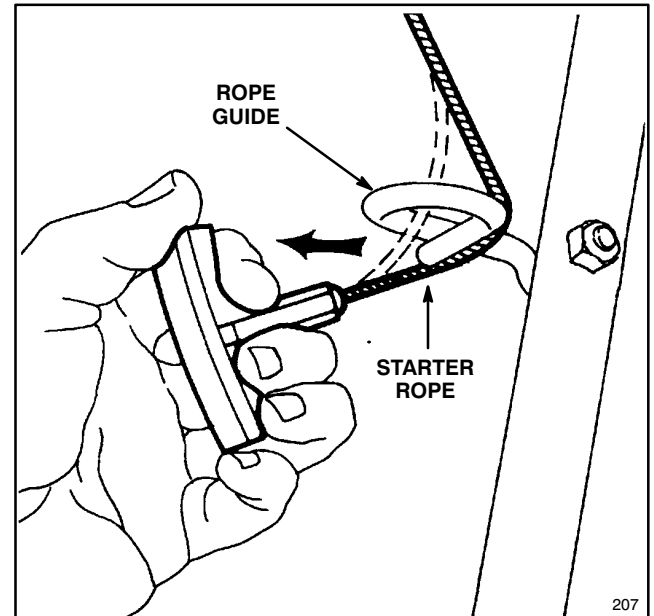
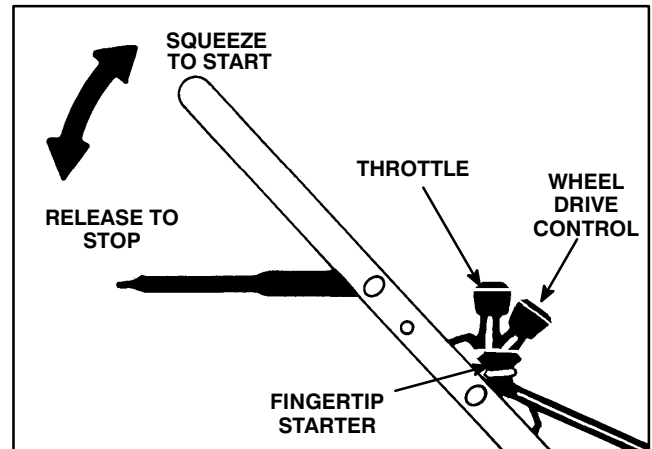

Figure 3
Figure 5
3. STARTER ROPE (Fig. 3)—Pull starter rope through opening in rope guide. By squeezing control bar (Fig. 5) against handle, blade brake will release and allow rope to be pulled easily up to rope guide.
1. Wheel drive control (self-propelled model only), throttle, control bar and fingertip starter are on upper handle (Fig. 5).
5. Hold control bar against handle. Pull fingertip starter out until positive engagement results (Fig. 5); then pull vigorously to start the engine. Regulate throttle as desired when engine starts.